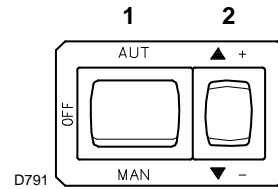
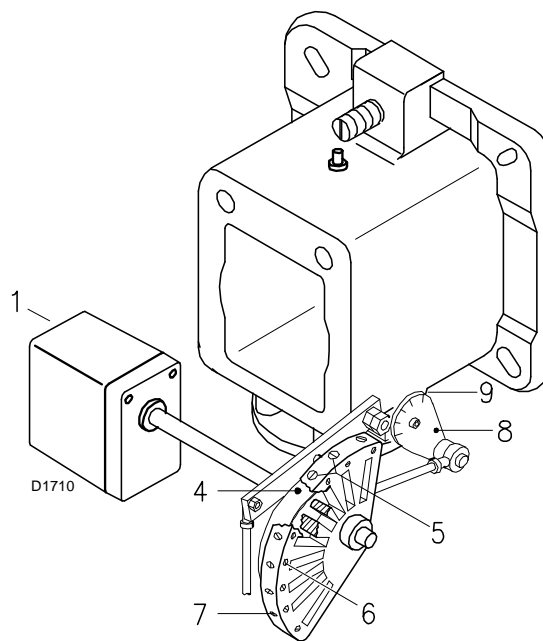
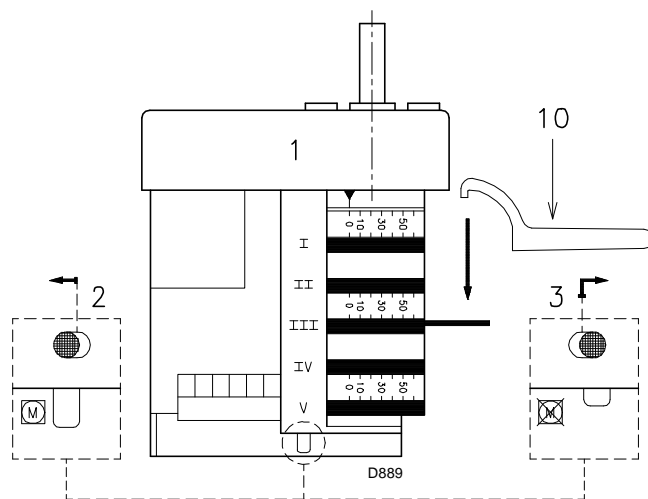

Fig. 35
Fig. 36
Fig. 37
Close the control devices and set switch 1)(Fig. 35) to “MAN”.
In the above instructions we left the burner running in MIN. output operation. Now press button 2)(Fig. 35) “increase output” and keep it pressed until the servomotor has opened the air gate valve and the gas butterfly valve.
Progressively adjust the end profile of cam 4)(Fig. 36) by turning the screws 7).
Press button 2)(Fig. 35 at page 28) “output reduction” until the servomotor has closed the air gate valve and the gas butterfly valve to 30° (factory set adjustment).
- If this value is to be reduced, decrease the angle of cam III (Fig. 37) slightly by proceeding a little at a time until the angle is changed from 30° to 28° - 26°....
- If it has to be increased press the button “output increase” 2)(Fig. 35 at page 28) (i.e. open the gas butterfly valve by 10-15°), increase the cam III angle (Fig. 37) with small successive movements, i.e. take it from angle 30° to 32° - 34°... Then press the button “output decrease” until the servomotor is taken to the minimum opening position and measure the gas delivery.
- In order to adjust cam III, especially for fine movements, the key 10)(Fig. 37), held by a magnet under the servomotor, can be used.
Progressively adjust the starting profile of cam 4)(Fig. 36) by turning the screws 5).
Key Fig. 36
Press the key 2)(Fig. 35 at page 28) "output increase" a little so that the servomotor turns by about 15°.
- Switch off the burner using switch 1)(Fig. 35 at page 28), at OFF position;
- disengage the cam 4)(Fig. 36) from the servomotor, by pressing the button 3)(Fig. 37);
- Engage the cam 4) to the servomotor again by moving the button 2)(Fig. 37) to the left.
- Finally fix the adjustment by turning the screws 6)(Fig. 36).
Disengage the cam 4)(Fig. 36 at page 29) from the servomotor, by pressing and moving button 3)(Fig. 37) towards the right, and turn it backwards and forwards by hand to make sure it moves freely. Now engage the cam again by moving the button 2)(Fig. 37) to the left.